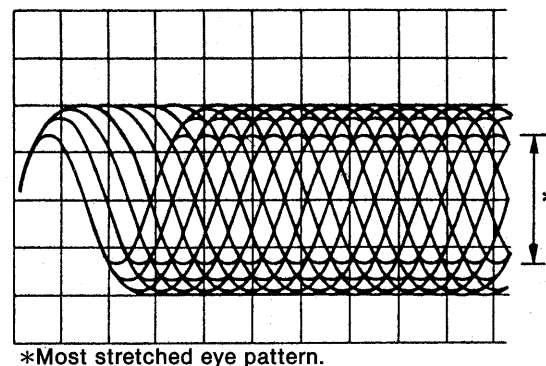

Fig. 2
4. Alternately adjust the two HEX screws with the 2.0mm allen wrench (SZZP1101C) until the vertical fluctuation of RF signal is minimized and the eye pattern is most stretched. (Refer to Fig. 2)